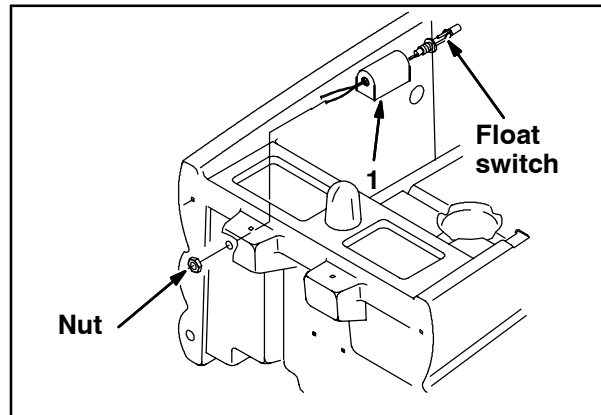

FIG. 6
4. Position the float switch and float switch protector bracket (1) inside the recovery tank and pull the wires from the float switch out through the same hole in the recovery tank where the float switch had previously been installed. Be sure the mark on the float switch remains at 12:00. Refer to Fig. 6.